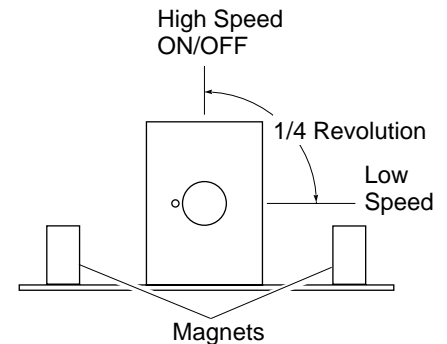

Figure 32 - Blower Speed Control
1. To operate blower, turn the blower speed control knob clockwise to the "ON" position (see Figure 32). This will be the highest blower speed. Continue turning knob clockwise to reduce blower speed. Turn knob only within the specified range (1/4 revolution, see Figure 32).